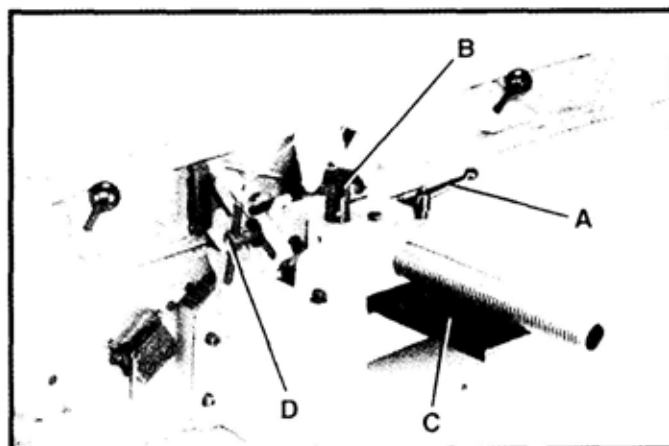
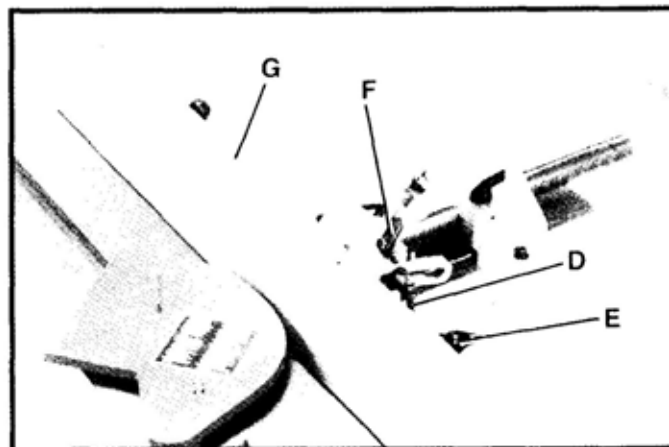
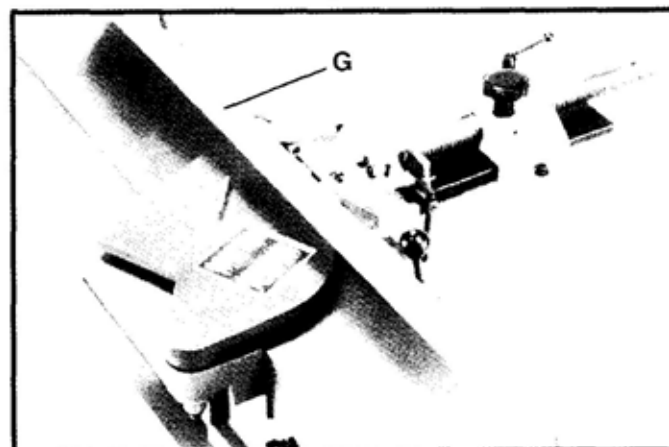

Fig. 51
Fig. 52
Fig. 53
1. To move the fence across the table, loosen locking handle (A) Fig. 51, and turn knob (B) accordingly until the fence is in the desired position; tighten locking handle (A). As the fence is moved across the table, the rear cutter – head guard (C) Fig. 51, extends over the knives in back of the fence for operator safety. **NOTE:** Locking handle (A) Fig. 51, is spring – loaded and repositioning it on the serrated nut located under the hub of the handle.
2. To tilt the fence in or out, loosen locking handle (D) Fig. 51. While holding fence tilting handle (E) Fig. 52, rotate flip stop (F) and tilt the fence in or out to the desired angle and tighten locking handle (D). **IMPORTANT:** When cutting bevels and the angle is small, there is little difference whether the fence is tilted in or out; however, at angles approaching 45 degrees, it may become difficult to hold the work securely against the fence when it is tilted outward. In this case, we suggest that the fence (G) be tilted toward the table as shown in Fig. 53. The fence will form a V – shape with the table, and the work is easily pressed into the pocket while passing across the knives.